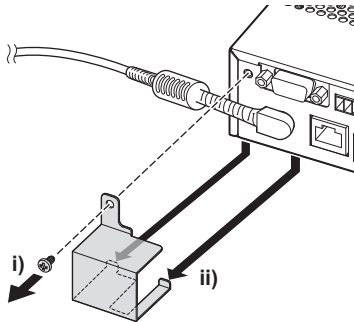

Fig. 1
- 2) Remove the AC adapter securing bracket. (Fig. 1)